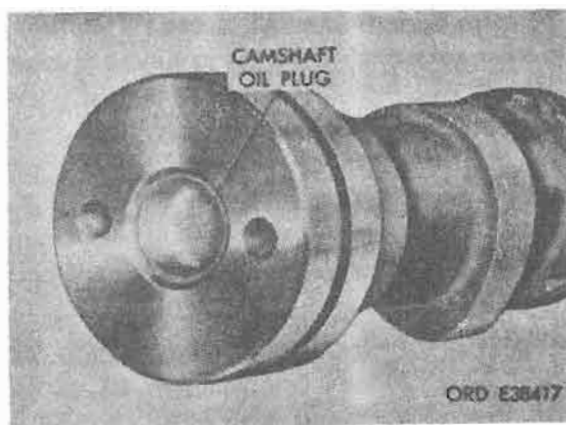

Figure 4-171. Camshaft oil plug.
a. *Remove Camshaft Plug.* If it is necessary to remove plug from end of camshaft, insert steel rod into open end and knock out plug (fig. 4-171).
a. *Install Camshaft Oil Plug.* If plug was removed from rear end of camshaft, use a press with suitable adapter or a large diameter punch and install new plug (cup side out) until it contacts shoulder firmly (fig. 4-171).